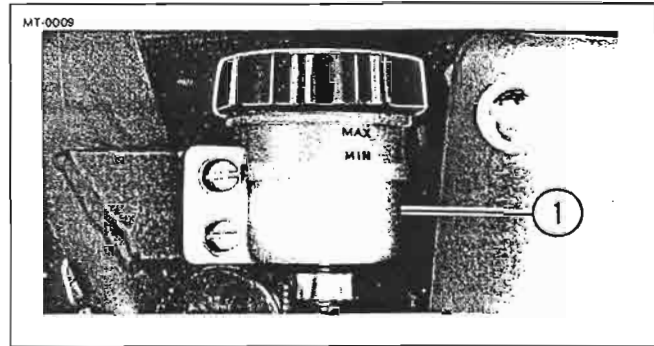

Figure 2-10. Rear Brake Fluid Reservoir
See Figure 2-10. Check that fluid level is at MAX line on reservoir (1).